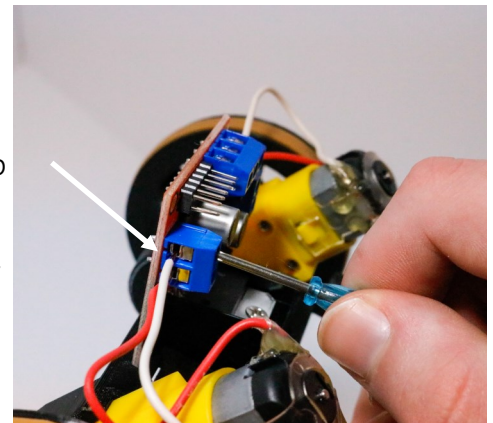

Figure 2: Ground wire is on top
- Push the wire ends into the blue wire clamps closest to each motor so that the white ground wire is on top and the red positive is on the bottom. Use the screwdriver to tighten the clamps, you may have to loosen before inserting wires (figure 2).